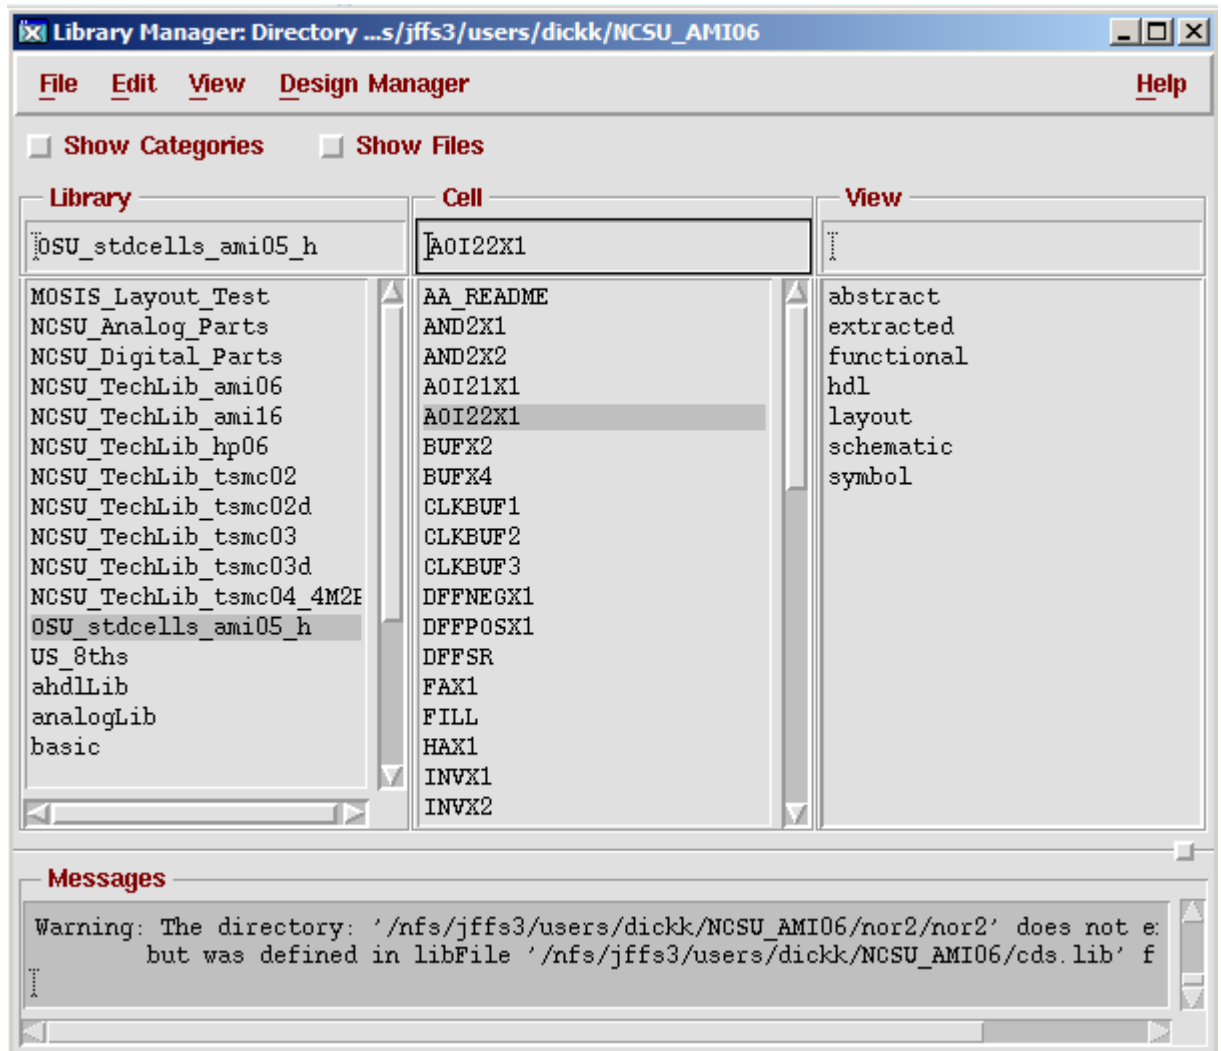

Figure 2: Library Manager
- 2) The library manager is where the libraries, cells and views are stored, Figure 2. If you select a cell of one of the libraries you can view the different layouts (schematic, extracted, layout, symbol, etc.) of that cell, by double clicking on the type of view. The file tab allows you to create a new library, cell view and category, open a cell view, load or save defaults or exit. The edit tab allows you to copy, rename, delete, change properties, access permission and library path.